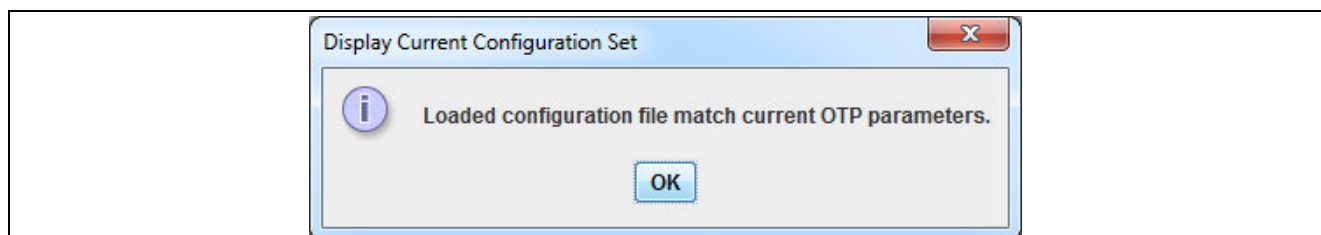

Figure 51 Repatching Configuration Set Attempt Message
5. If attempting to repatch, the message shown in Figure 51 will appear.